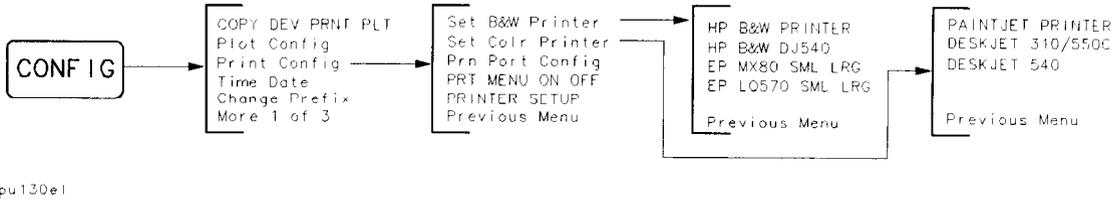

Figure 6-9. Printer Configure Menu
3. Referring to Figure 6-9 select the printer configuration for your spectrum analyzer by pressing the appropriate keys: